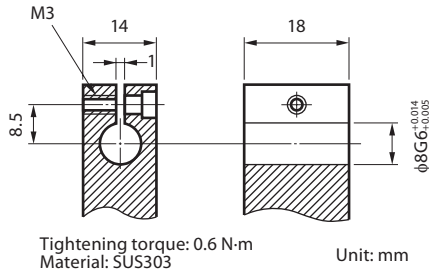

Fig.3 Dimensions and Dimensional Tolerance for the Mounting Holder
- When mounting onto a machine, use of the Flange Adaptor DZ830F (optional accessory) is recommended for preventing damage to the measuring unit due to over-tightening. If the DZ830F cannot be used, prepare a holder with the dimensions and material shown in Fig. 3, and fix the probe by fastening the screw at a specified torque of 0.6 N·m.
- Attach the stem by tightening a screw into the slot as shown in Fig. 3. Never attach by screw threading in the $\phi 8$ hole vertical direction, pressing the stem, and then tightening with a screw. This could result in poor sliding and low precision.